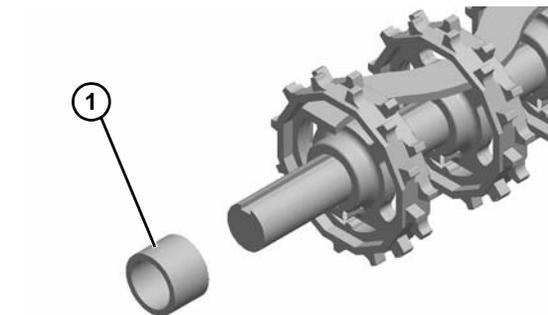

Figure 57
8. Slide off drive sprocket spacer (Figure 57, item 1).